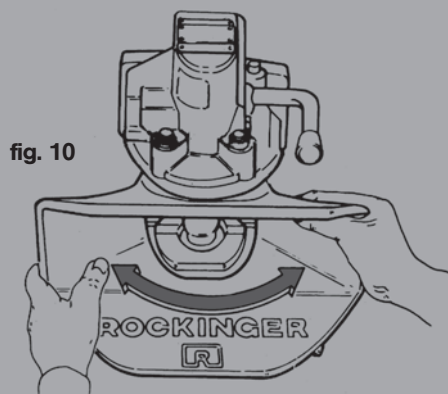

fig. 10
- Turn jaw slightly to the right and left (see fig. 10)